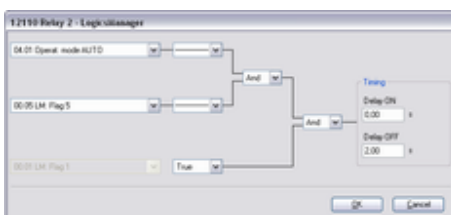

Fig. 231: LogicsManager function "Relay 2"
- ➔ Configure the LogicsManager function "Relay 2" as shown in (Fig. 231).